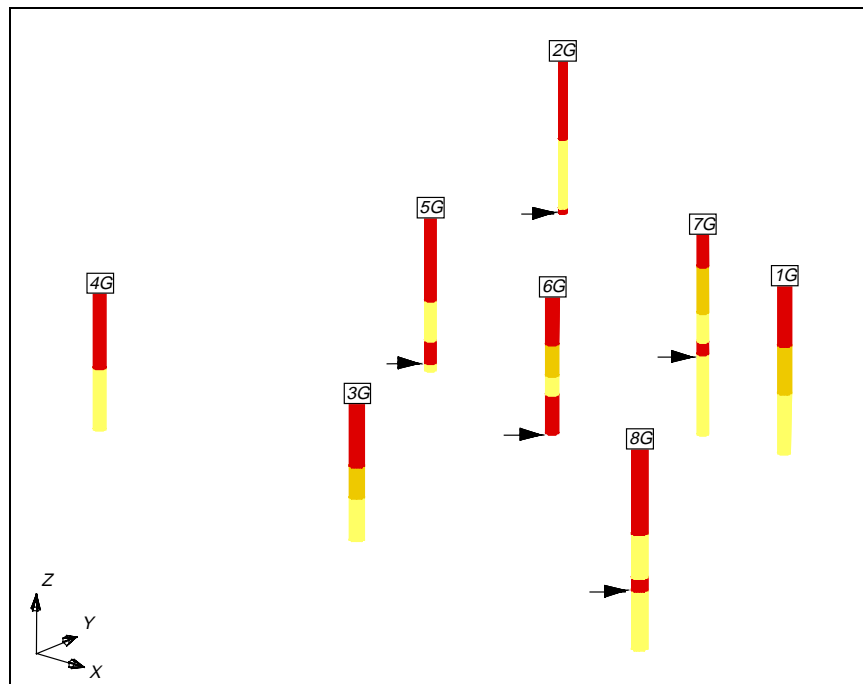

Figure 3.3 Contacts to be Selected.
1. Since the *Auto Select* command will not work in this case, hold down the *Shift* key and select the following contacts (see Figure 3.3):